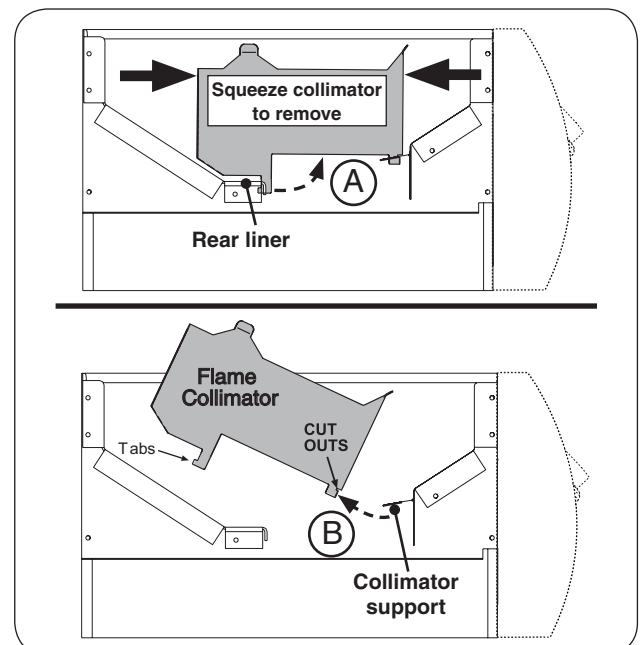

Fig. 49-4 Flame collimator removal
2. Squeeze the collimator to detach the rear tab from the rear liner as shown in Fig. 49-4, A, and lift up the rear portion of the collimator.
3. Detach the collimator from the front collimator support and completely remove the collimator as shown in Fig. 49-4, B.